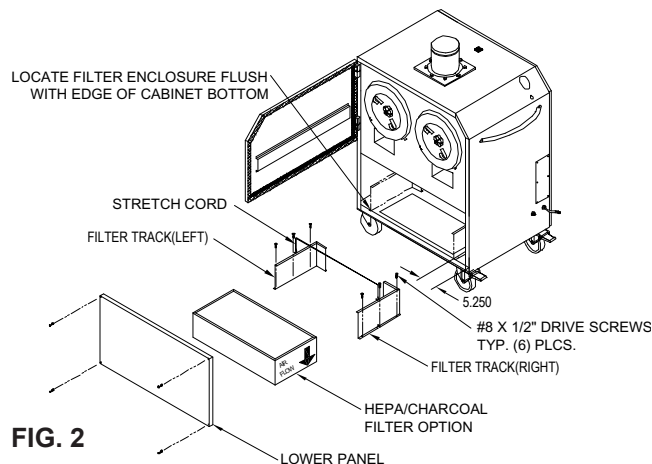

FIG. 2
1. Remove the four (4) screws used to attach the lower panel and remove lower panel from TM1000.
2. Locate filter tracks as shown in **FIG. 2**. Filter tracks are to be located flush to front edge of cabinet bottom and centered above exhaust opening. (Align filter track over pre-punched holes).